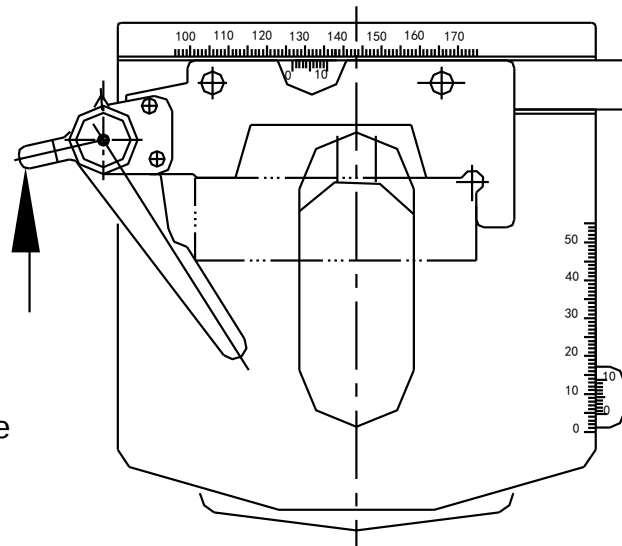

Fig 3. Mechanical Stage
The stage of this microscope is double layers mechanical stage showed in Fig 3. Its size is 125(L)X125(W)mm. Push the rod of the clamp in the arrow direction showed in Fig 3, and insert the specimen into the clamp carefully. Leave your finger away from the clamp, the clip will turn back slowly, and then the specimen will be holded and moved with the clamp. Rotate the knob(14) to move the clamp lengthwise in 40mm. Rotate the knob(15) to move the clamp crosswise in 60mm. The moving precision is 0.1mm in both directions.